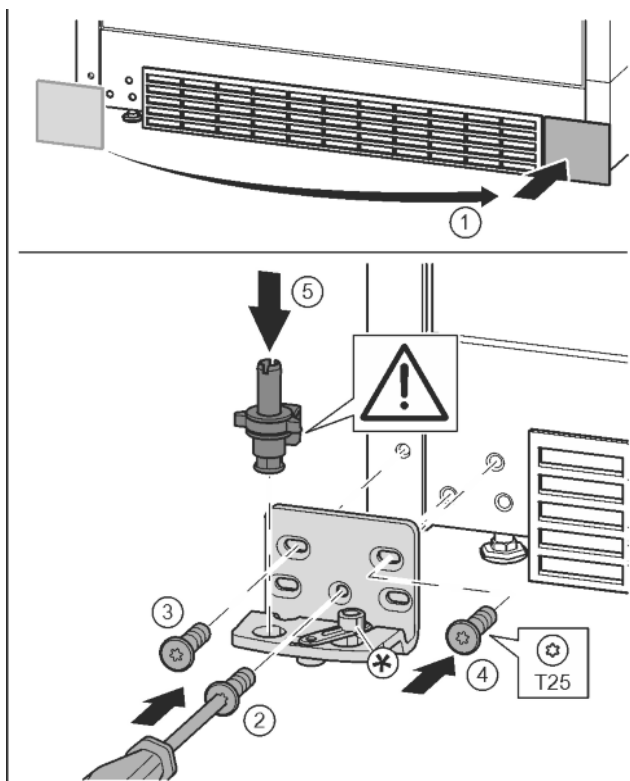

Fig. 17
- Remove the cover and fix it on the other side. Fig. 17 (1)
- Place the bearing bracket on the other side and screw in with the aid of a T25 screwdriver. Start with screw 2 at the bottom in the middle. Fig. 17 (2)
- Screw in screws 3 and 4. Fig. 17 (3, 4)
- Insert the bearing pin completely. Make sure that the catch mechanism is pointing to the rear. Fig. 17 (5)